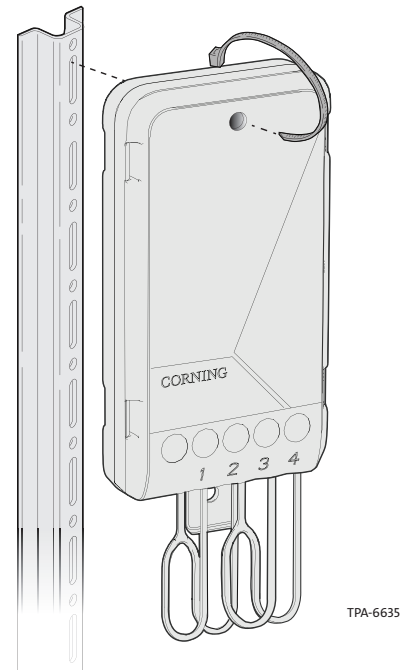

Figure 15
Step 1: Position the terminal in the handhole or pedestal with the mounting hole at the top and bottom of the terminal against the vertical mounting channel or wall (Figure 15) and attach the terminal with a cable tie or ¼-in (6 mm) bolt/screw (Figure 15).